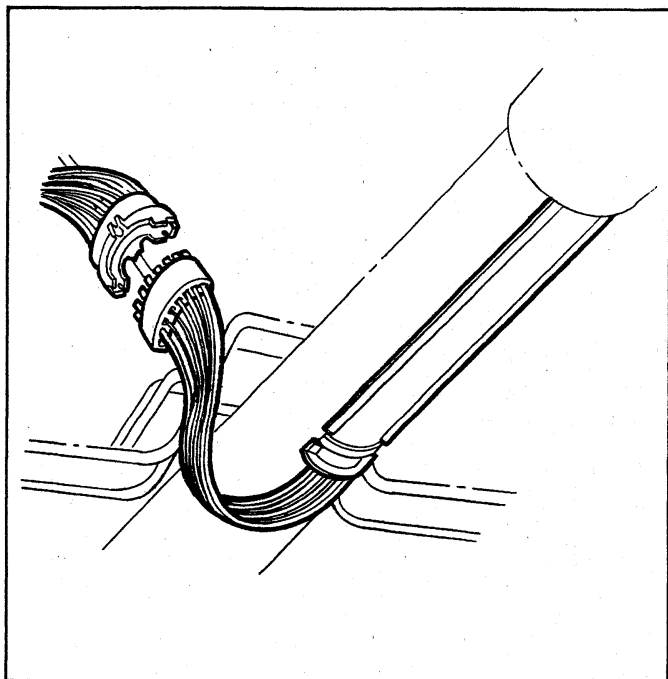

Fig. 8—Steering Column Wiring Connector
1. Disconnect steering column harness from chassis wiring harness at connector (fig. 8).